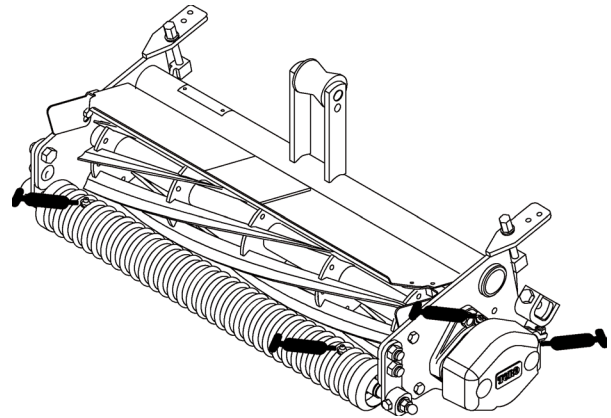

Figure 6
- Reel bearings (2) (Fig. 6)
- Front and rear rollers (2 ea.) (Fig. 6).